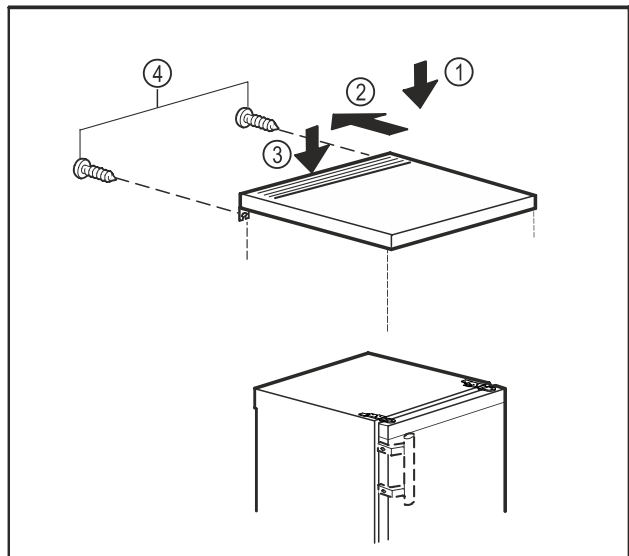

Fig. 10
- ▶ Place the table top on the appliance. Fig. 10 (1)
- ▶ Push the table top backwards. Fig. 10 (2)
- ▶ Press the table top down at the back. Fig. 10 (3)
- ▶ Tighten the screws on the rear end. Fig. 10 (4)